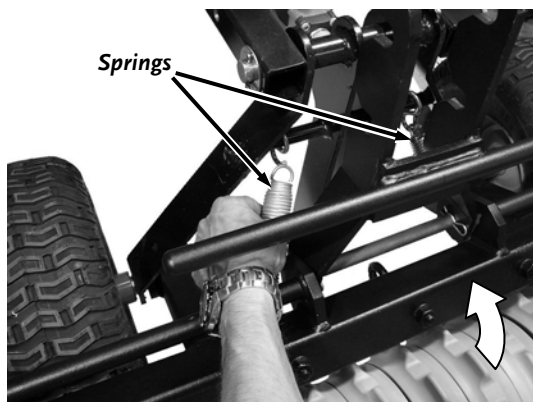

Figure 27
8. Rotate the Culti-packer up towards the Wheel Frame and Hook the Springs onto the “S” Hooks (**Figure 27**).